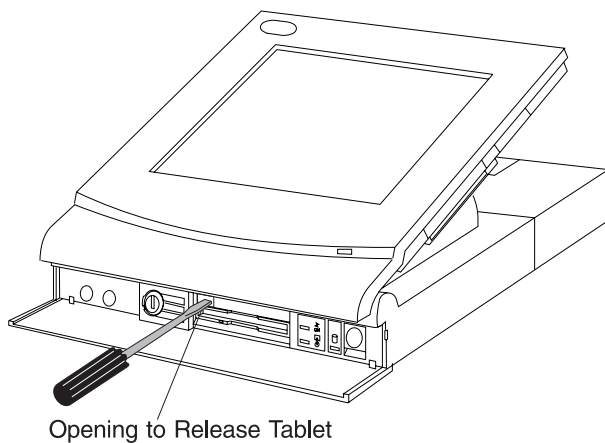

Figure 3-23. Removing the Tablet
- 2 Insert a small flat-blade screwdriver into the opening near the diskette drive as shown in Figure 3-23. Push the screwdriver inward to release the bottom edge of the tablet from the wedge. Slide the tablet upward to remove it.
**Note:** It is not necessary to remove the tablet from the wedge to remove or exchange the FRUs inside the tablet. If you want to remove the tablet from the wedge, see Figure 3-23 on page 3-35. Otherwise, continue at the next step.